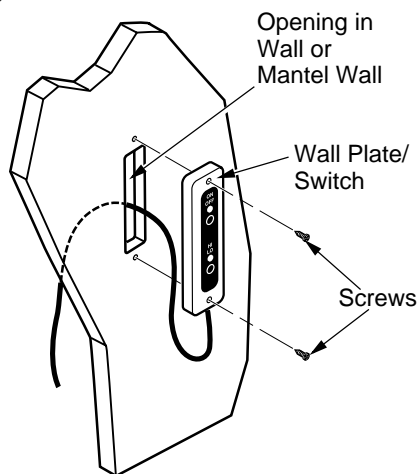

Figure 13 - Securing Wall Switch
16. Position switch/plate assembly vertically over wall openings with decal lettering upright (see Figure 13).
12. Carefully pass switch/plate assembly through rectangular opening from inside mantel (see Figure 13).